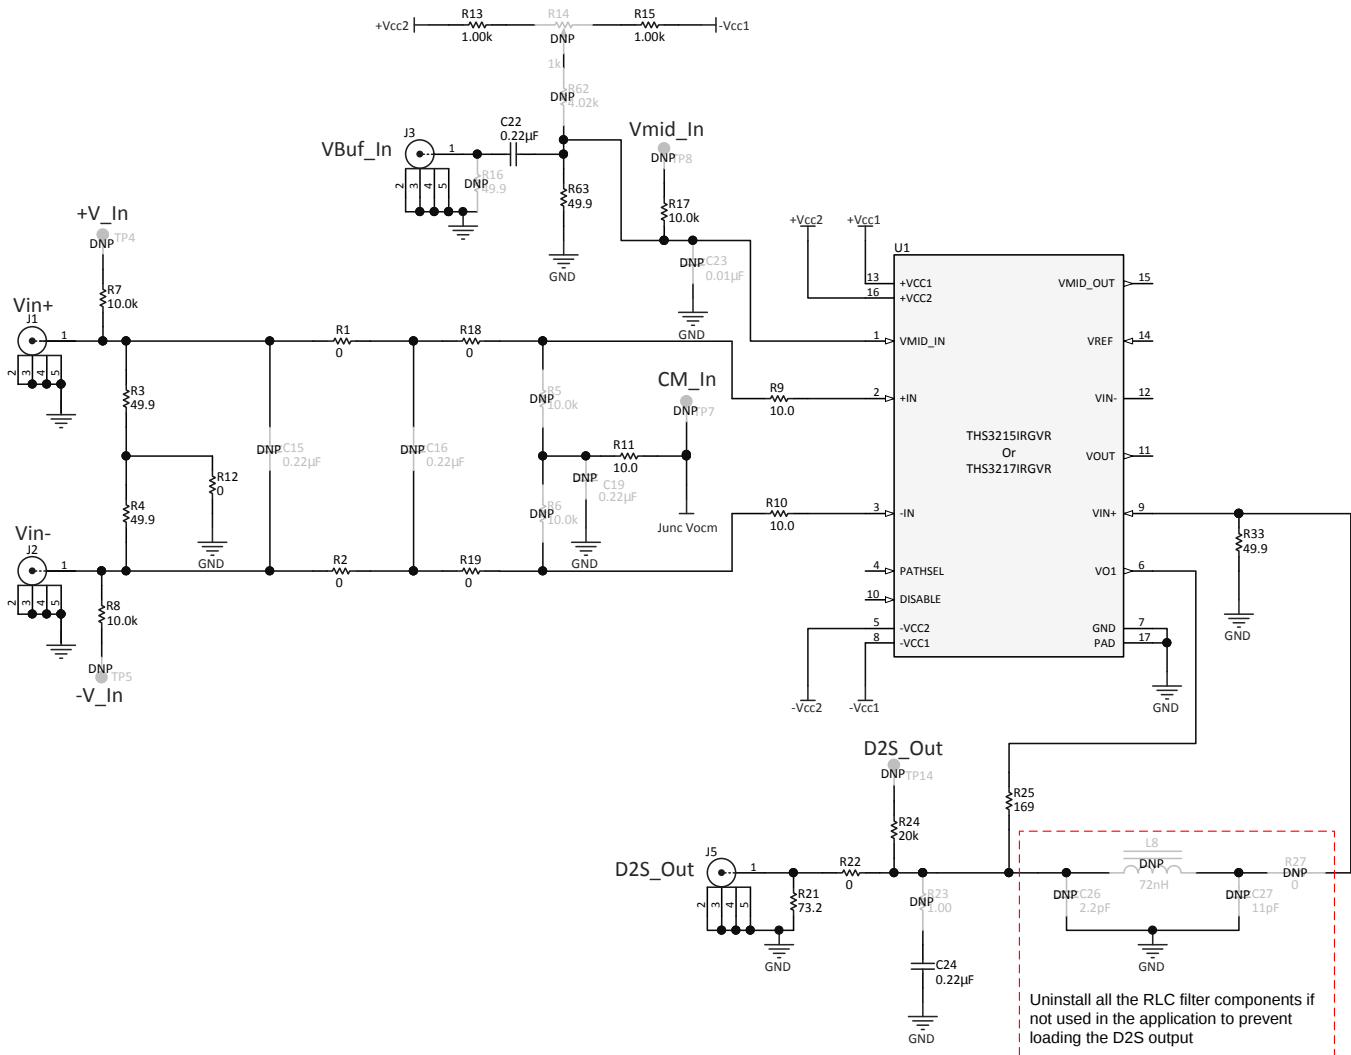

Figure 4. D2S Input Connection Options
The D2S inputs are driven by an external differential signal through SMA connectors J1 and J2. Standard lab equipment usually provides only a single-ended output. The LMH3401, a very wideband, single-ended to differential amplifier, was used during product evaluation to drive a differential signal into the D2S. The spacing of the SMA connectors on the THS321xEVM is designed to interface directly with the output of the LMH3401EVM through standard SMA barrel connectors. The THS321xEVM provides a standard 100- Ω differentially-terminated resistive network to GND, dc-coupled to the D2S input pins. Figure 4 shows the EVM schematic of the D2S input/output network with the default passive components installed. The output of the D2S can also be measured externally at J5.
2. In single-supply and ac-coupled applications, use R18 and R19 to install the appropriately-sized, ac-blocking capacitors (see Figure 4). Use the midscale buffer output in conjunction with R56, R11, R5, and R6 to set the desired dc common-mode voltage for the D2S input.
4. Certain applications may require an interstage filter inserted between the D2S and OPS to reduce overall system noise, and prevent high-frequency harmonics from previous stages propagating to the OPS output. In such situations, use C26, L8, and C27 to insert a third-order, RLC filter into the signal path of the THS321x (see Figure 4). The output of the filter then drives the external noninverting input of the OPS, VIN+ (pin 9).